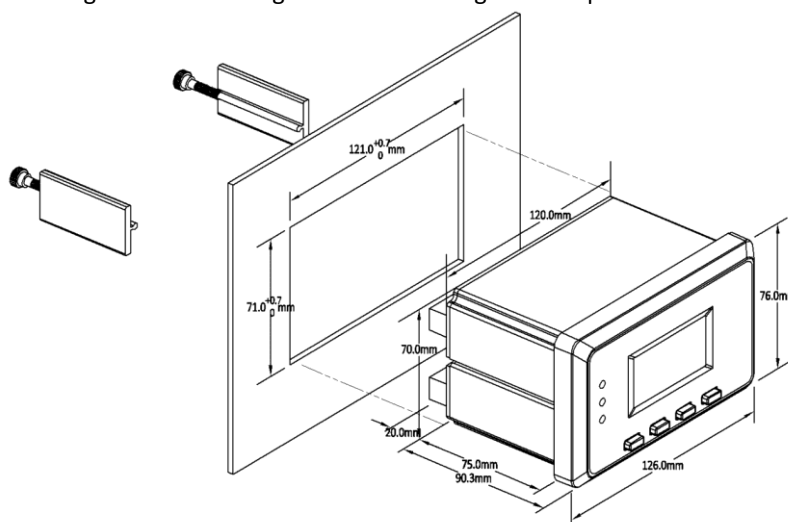

Figure 2-18 Panel Cutout Installations
- Fit the relay through a 121mm x 71mm cutout as shown in Figure 2-18.